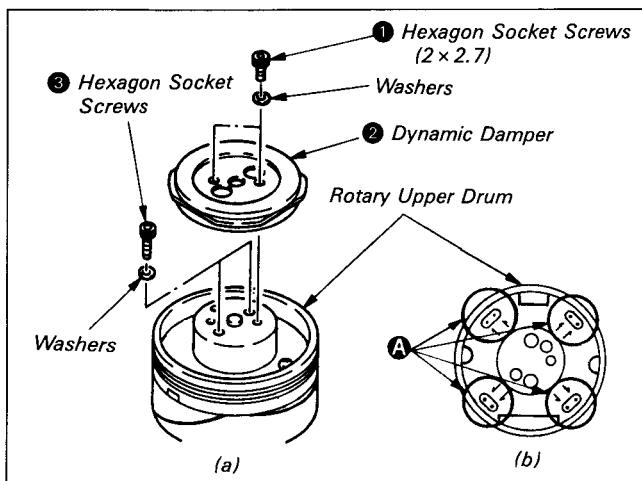
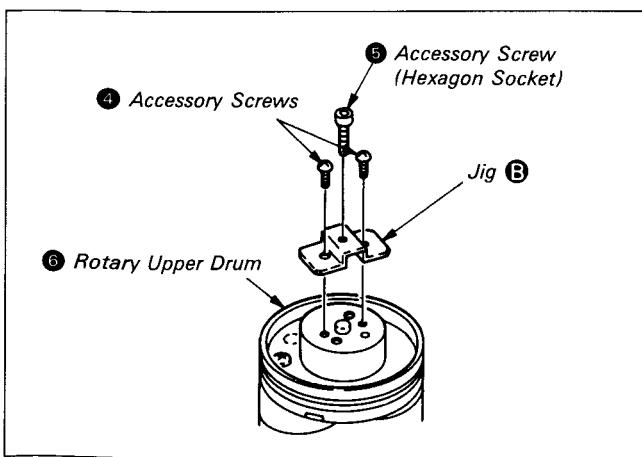

Fig. 7-45.
Fig. 7-46.
- 1) Remove two hexagon socket screws (2×2.7) ① and dismount the dynamic damper ②. (See Fig. 7-45.)
- 2) Suction solder at all of the soldered eight positions A. Check that the printed wiring board and pins jutting out from below freely move using tweezers, or other tool. (See Fig. 7-45.)
- 3) Remove the two hexagon socket screws (2×5) ③. (See Fig. 7-45.)
- 4) Mount the dismounting Jig B with the accessory screws ④ utilizing the screw holes in which the dynamic damper was mounted.
Drive the hexagon socket screw ⑤ into the jig B and remove the rotary upper drum ⑥. (See Fig. 7-46.)
- 3) Remove Jig **C**, lightly push the rotary upper drum by hands. If the rotary upper drum does not go in to the bottom, alternately tighten the two hexagon socket screws (2×5) **3** by hand and fix them temporarily. (See Fig. 7-45, 7-48.)
- 6) Solder the eight positions **A**. (See Fig. 7-45.)
- 7) Tighten the two hexagon socket screws (2×2.7) **1** reversing the screw removal procedure and remount the dynamic damper **2**. (See Fig. 7-45.)
7) Tighten the two hexagon socket screws (2×2.7) ① reversing the screw removal procedure and remount the dynamic damper ②. (See Fig. 7-45.)